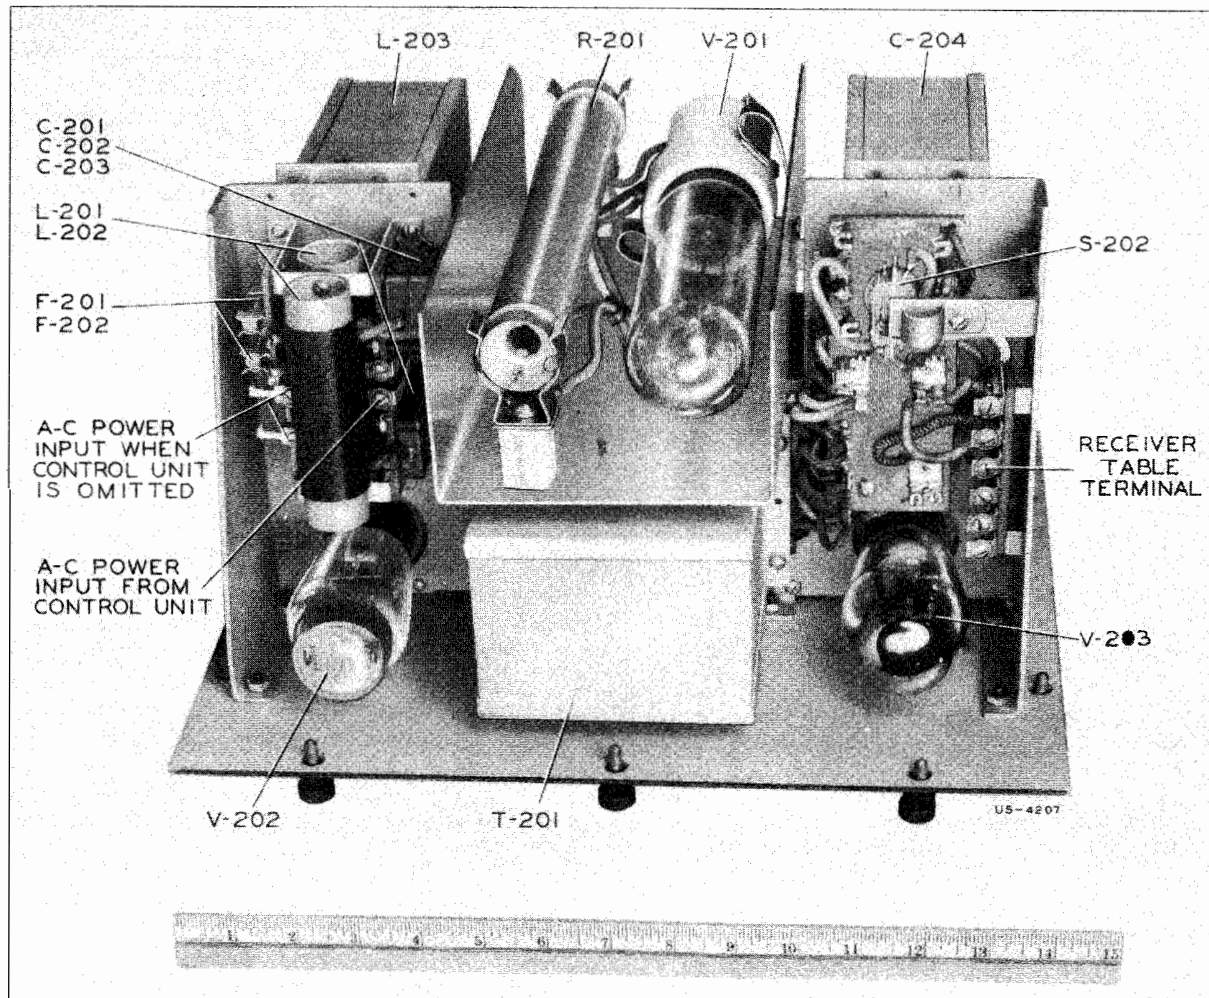

Figure 4--Power Unit CRV-20131 (Top View of Chassis - Covers Removed)
- 9.5-7 Referring to Figure 15, it will be observed that four terminals are provided for connecting the 110-, 115-, or 120-volt, 60-cycle supply to the power unit. When this equipment is used with the control unit, the power connection from the control unit to the power unit is made to the two right-hand terminals. When no control unit is employed, the connection is made to the left-hand terminals. Connecting to the two right-hand terminals removes the power switch on the panel from the circuit. (See Figure 4.)